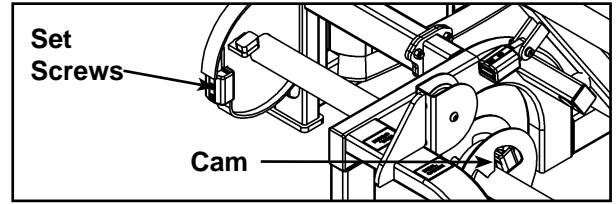

Figure 1
D. Rotate cam and disconnect weight stack belt from cam (by loosening the two set screws on the belt clamp with a 7/32" Allen wrench). See Figure 1.
O. Connect the weight stack belt to the belt clamp of cam (removed in step 4D). See Figure 1.